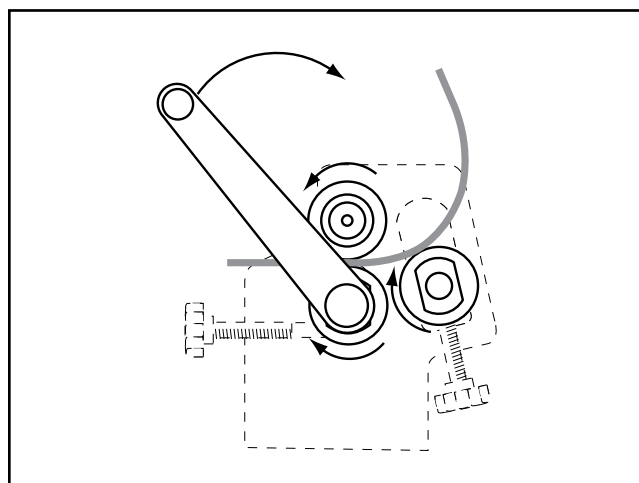

Figure 17. Processing the workpiece.
- Turn the crank to process the material through the slip roll. Continue turning until the workpiece is completely through the top and bottom rollers (see **Figure 17**).